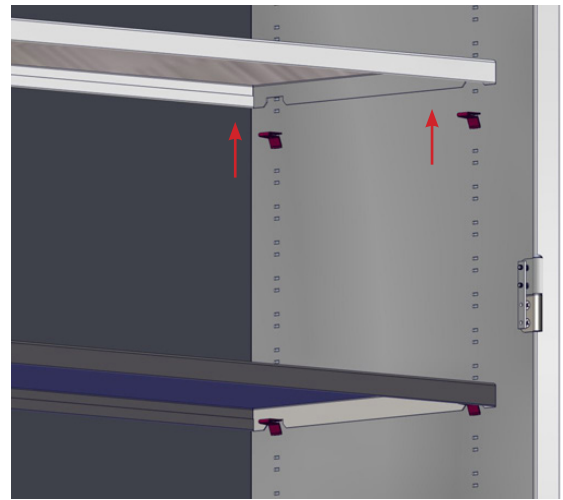

Fig. 16: Remove shelf from support tabs
2. Remove the shelf and determine its new position (Fig. 16).